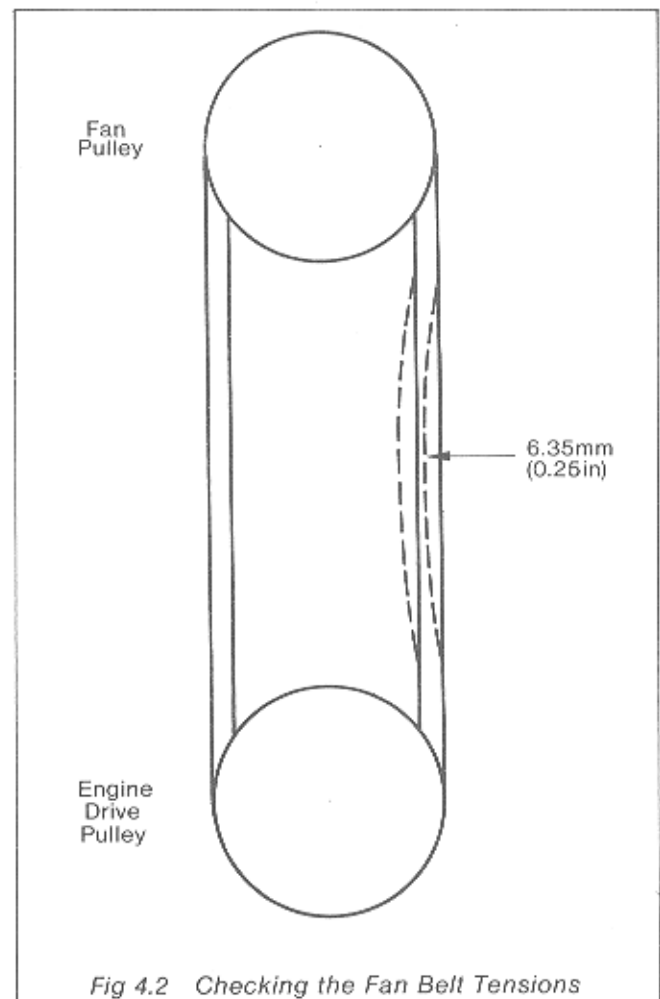

Fig 4.2 Checking the Fan Belt Tensions
- (1) Loosen the locknut on the pulley support and slide the pulley support assembly upwards to increase belt tension or downwards to decrease it.
- (2) The fan belt tension is checked by applying pressure on the fan belt as shown in Figure 4.2. The belt should have about 6.35 mm (0.25 in.) of movement.